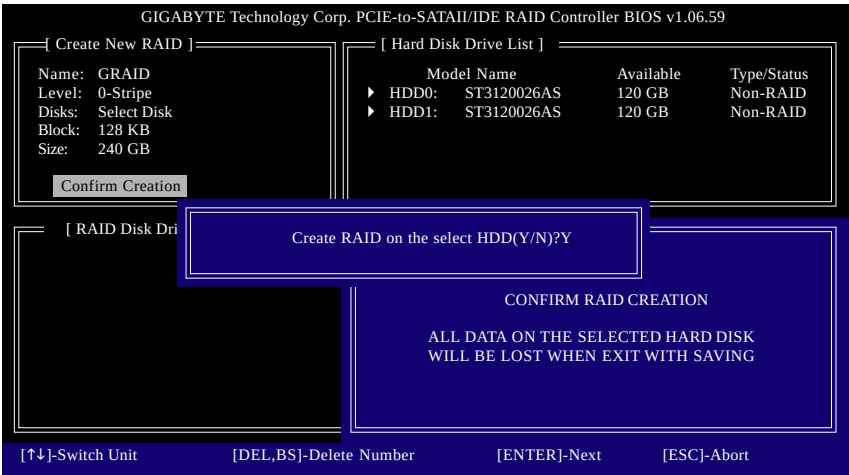

Figure 7
6. Confirm Creation: After all of the items above are configured, the selection bar automatically jumps to the Confirm Creation item. Press <Enter>. When prompted to confirm your selection (Figure 7), press <Y> to confirm or <N> to abort.